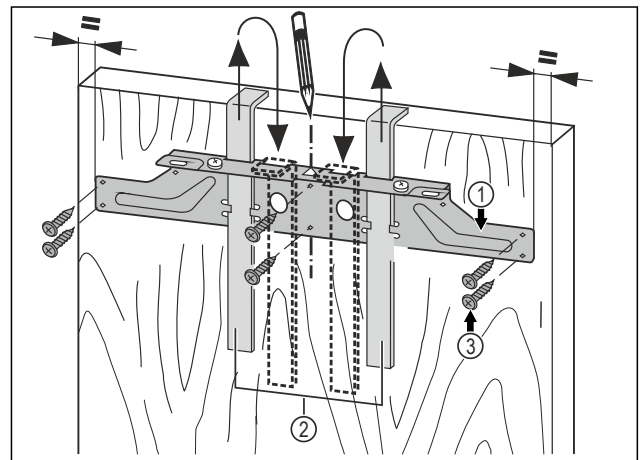

Fig. 21
- Hang the fastening crossbeam Fig. 21 (1) with the assembly aids Fig. 21 (2) on the inside of the unit door.
- Align the fastening crossbeam Fig. 21 (1) in the center of the door.
- ▶ Screw down the fastening crossbeam Fig. 21 (1) with at least 6 screws Fig. 21 (3).
- ▶ Screw down the fastening crossbeam Fig. 21 (1) to the edge with 4 screws Fig. 21 (3).
- ▶ Pull out the assembly aids Fig. 21 (2) upwards and insert them rotated into the adjacent openings.